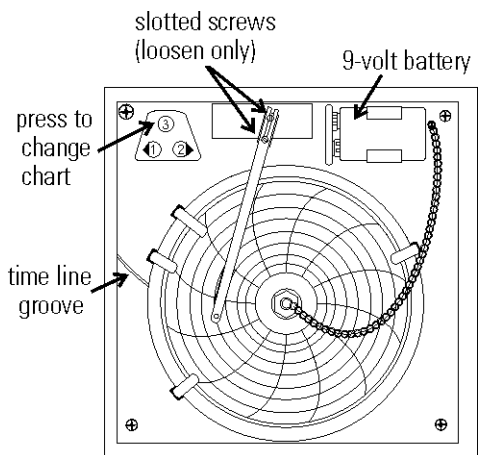

Figure 1-6. Recorder Components
To prepare the recorder for operation, open the glass door and snap the connector onto the 9-volt battery (Figure 1-6). If the unit is operating, the green LED lights steady. If the unit is not turned on, the LED blinks.
1. Press the #3 Change Chart button (Figure 1-6) and hold it for 1 second until the pen begins to move to the left of the chart.